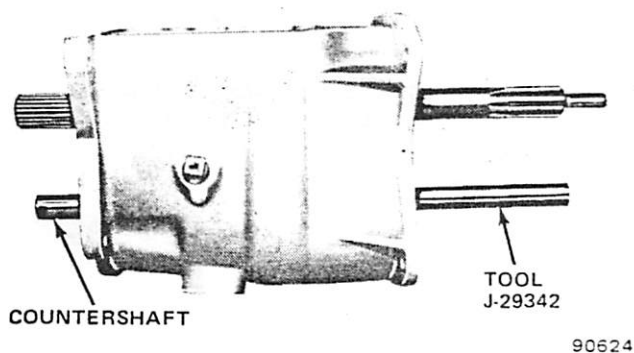

Fig. 2B-52 Countershaft Removal/Installation
(1) Remove bolts attaching transfer case to transmission and remove transfer case.
(2) Remove shift control housing.
(3) Drain lubricant from transmission case if not drained during removal.
(4) Remove countershaft using Arbor Tool J-29342 (fig. 2B-52). Tap countershaft out rear of case.
(5) Remove locating ring and retaining snap ring from rear bearing.
(6) Remove rear bearing using Puller Set J-25152 (fig. 2B-53).
(7) Scribe or punch alignment reference marks in front bearing cap and transmission case.
(8) Remove front bearing cap and gasket.
(9) Remove and discard front bearing cap oil seal. Use screwdriver to pry seal out of cap.